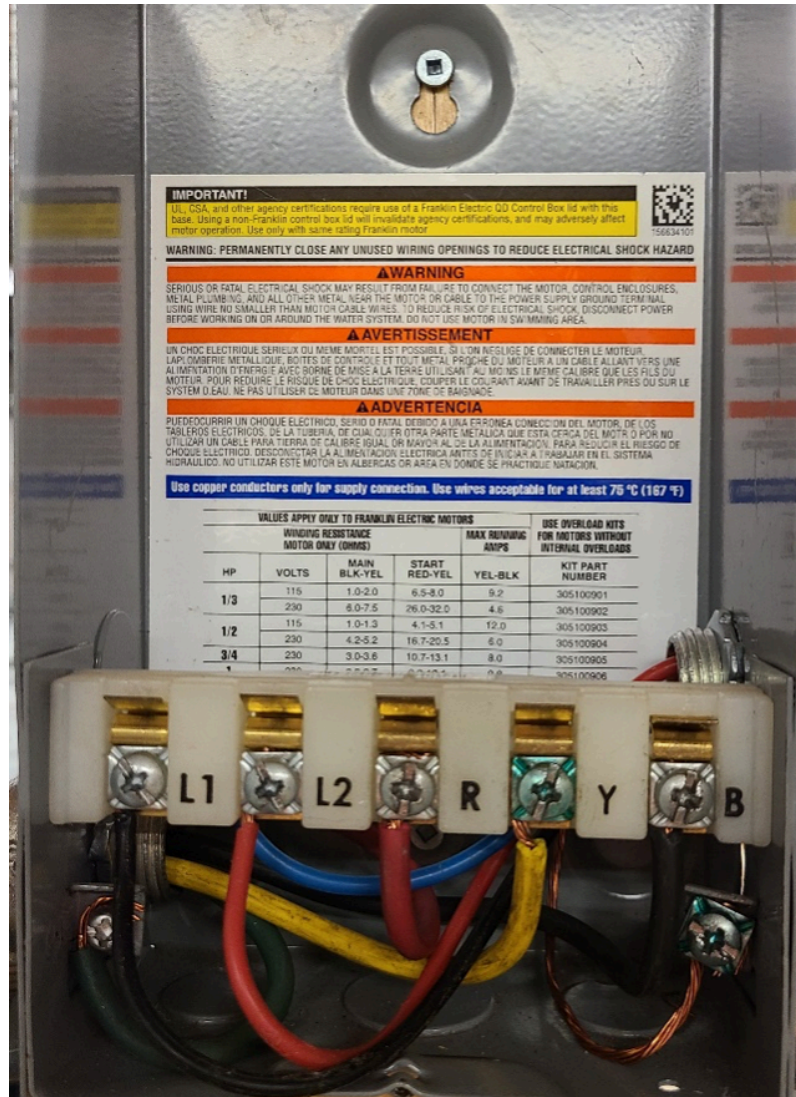

Figure 61. Control box connections
13. Connected the pump power cable to the pump panel, control box, VFD or constant pressure controller as per manufactures instructions (Figure 61). Always connect the control box or panel-grounding terminal to supply ground per the Canadian Electrical Code (CEC) requirements.
- Figure 61. “Control box connections” by Rod Lidstone is licensed under a CC BY-NC-SA licence.